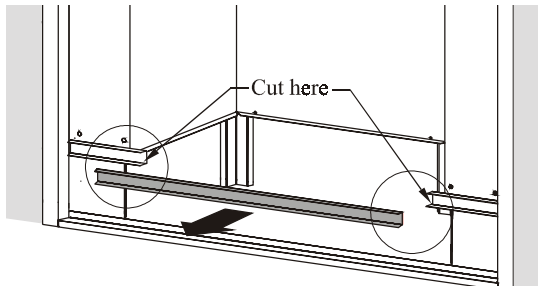

Figure 16. Cutting the front bar.
6. Cut the front bar to allow clearance to install the Heating Insert Using a hacksaw, make the cut approximately 2" in from the side of the firebox, as shown in figure 16.